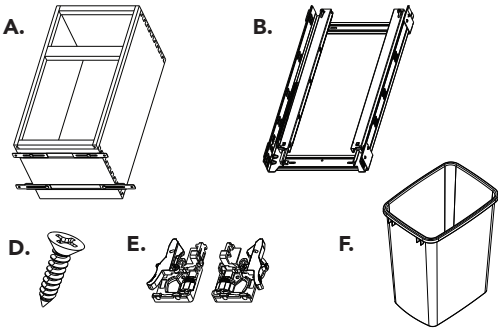

FIG. A-1
Attach slide triggers to bottom of frame using (6) #6 x 1/2" flat head screws (Fig. A-1 and A-2).